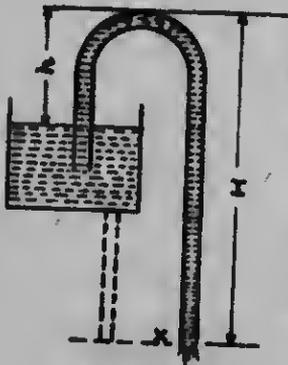

FIG. 8.
**Siphon.** If a bent tube is filled with a liquid and one end is introduced into a vessel of the liquid while the other end is open and held at a lower level than the surface, the liquid will flow from the vessel through the tube. Such an arrangement is known as a siphon and as an easy experiment is one that should be tried by everyone. See Fig. 8.